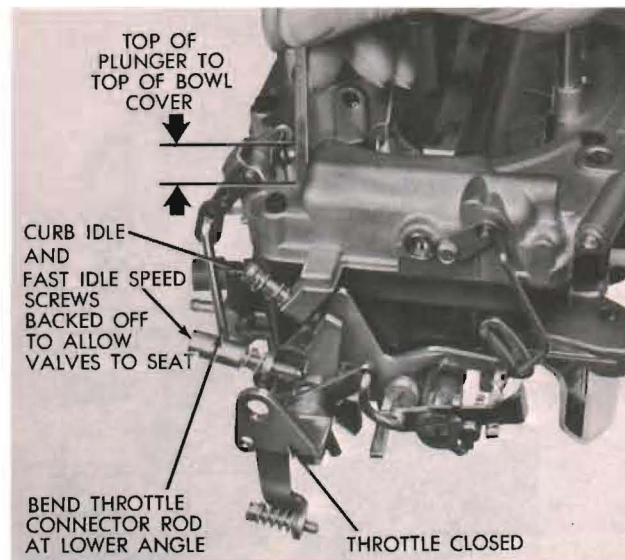

Figure 21. Adjusting the Accelerator Pump Stroke
- (1) Move the choke valve to wide open position, to release the fast idle cam. Back off the idle-speed adjusting screw (curb idle) until throttle valves are seated in bores. Make sure the throttle connector rod is installed in the specified hole of accelerator pump arm.
- (2) Close the throttle valve tightly and measure the distance between top of bowl cover and end of plunger shaft. (See figure 21.) This measurement should be as specified for the particular carburetor being serviced.
- (3) If an adjustment is necessary, bend the throttle connector rod at the lower angle, until correct travel has been obtained.